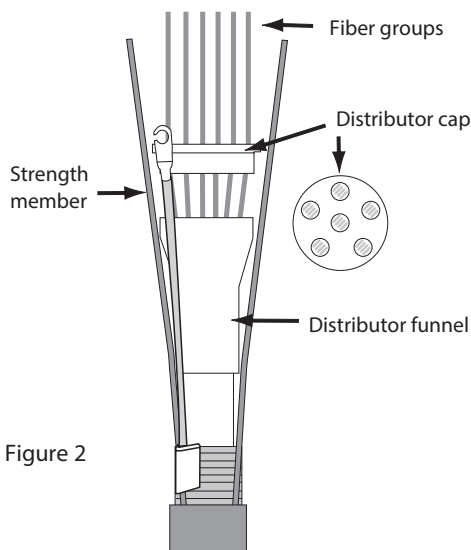

Figure 2
8. Place up to four ribbons in each hole of the distributor cap. Each distributor cap hole should contain groups of ribbons adjacent to each other in the cable. (Fig. 2)